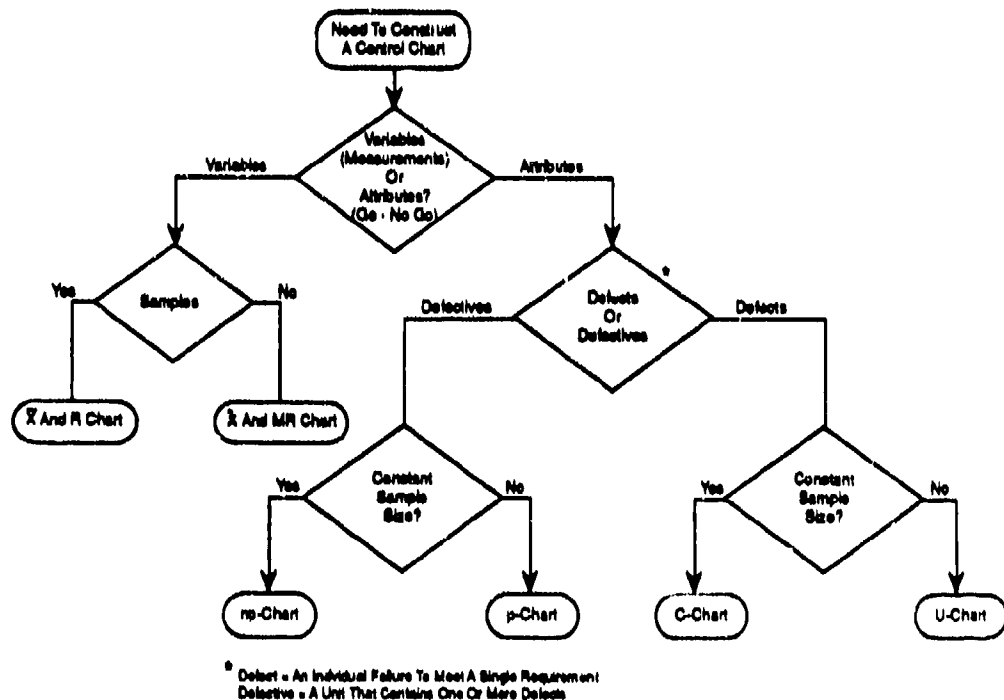

Figure A-3: Control Chart Selection Process
- The type of data to be collected will dictate the type of control chart to be used. In general, variables data require some form of measurement, e.g., length, temperature, etc. and the recording of those measurements. Attributes data require a good/bad or go/no-go decision and counting, e.g., types of defects, percent late, etc. Since attributes data doesn't require detailed measurements, it is easier and less costly to obtain. Use the Figure A-3 to determine the type of control chart needed.
1. Determine the type of data that is to be collected. Consult Figure A-3 to determine the appropriate type of control chart to employ.
- Determine which chart to use. The information in Table A-5 helps clarify the options in the Figure A-3.